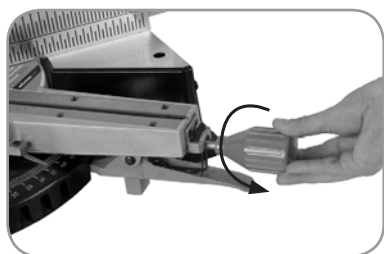

Fig. 29
- Loosen the Mitre Lock Handle (**Fig. 29**) by turning it anti-clockwise.